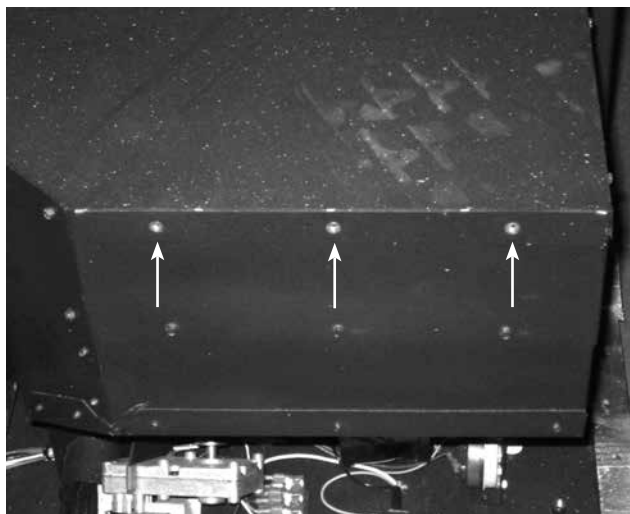

Figure 60
7. Remove the 3 screws located across the top of the pellet hopper (see **Figure 60**).